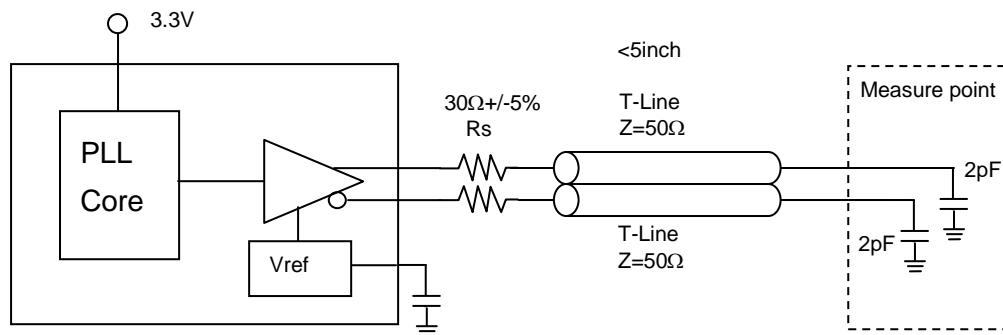

Figure.1 CLK1 Load condition
(1) CLK1p/1n:148.5MHz, CLK2=108MHz,CLK3/4=36.864MHz,REFOUT=27.0MHz
(2) CLK1p/1n: Figure1, CLK2-4: Cp1=15pF, REFOUT:Cp2=25pF
(2) Measured with load capacitance of 25pF
(3) Measured with load capacitance of 15pF
(4) Measured with load condition shown in Figure.1
(6) 16ms accumulate with higher than 10GSa/s.